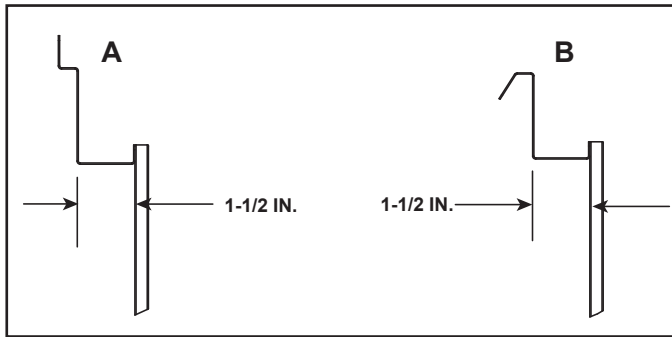

Figure 5. Top Bracket Bending Methods - Side View
- The top brackets are adjustable so that they may accommodate different decorative fronts and louver styles. Figure 5 illustrates two methods of bending the top bracket. The method labeled "A" will accommodate most fireplace applications.